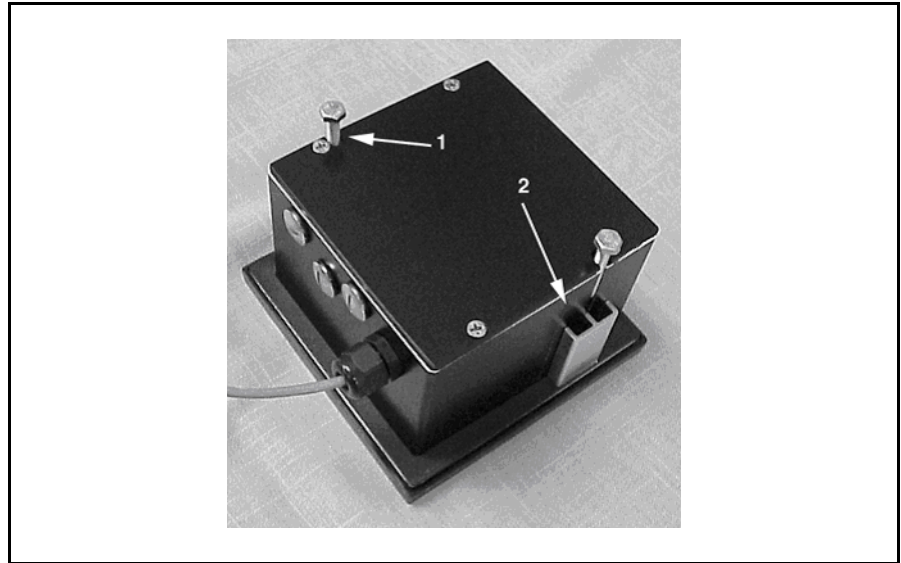

Fig. 4.2 KSU-II mounting hardware
The KSU-II mounts to the panel from the front using two aluminum clamps (item 2) to sandwich the panel to the front bezel of the KSU-II. These clamps slide on an integral slot in the KSU-II and are secured using the two 6 x 20 mm. hex bolts (item 1) from the rear as shown.(Fig.4.2)